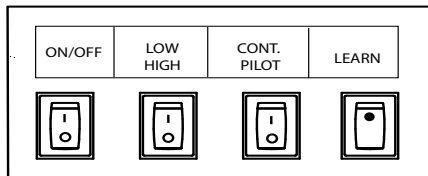

Fig. 36 Control panel
1. To **LEARN** (pair) the remote transmitter to the control module, press and release the LEARN button (switch) in the control box. See Fig. 36. You will hear single audible beep indicating the module is ready to learn the transmitter security code. Press any button on the transmitter within 60 seconds. The code is accepted when you hear 4 short beeps in rapid succession. Security codes will be retained in memory indefinitely if power is removed. **Note:** Control module accepts a total of three (3) wireless transmitters.